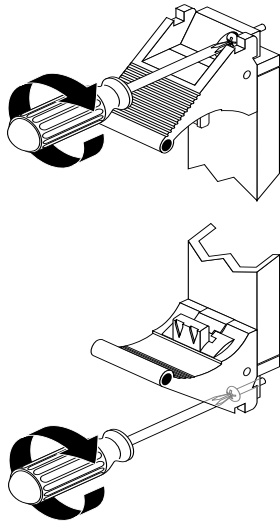

FIGURE 10-5 Tightening the Ejection Lever Captive Screws
c. Using a No. 2 Phillips screwdriver, tighten the two captive screws inside the card's ejection levers, one on top and one on the bottom (FIGURE 10-5 on page 10-8).